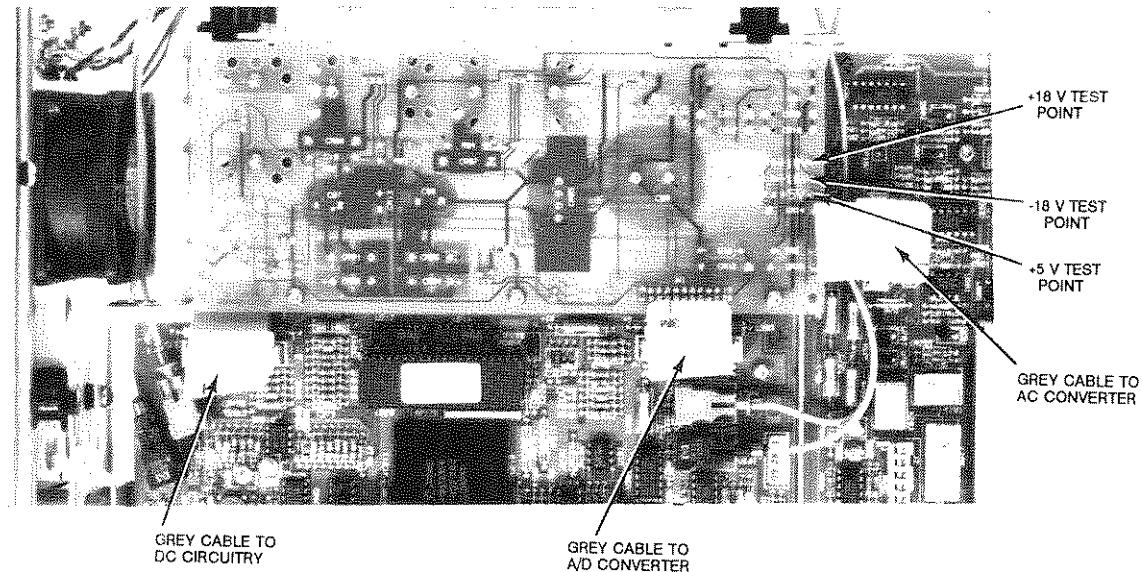

Figure 4-3. Inguard Power Supply
2. Refer to Figure 4-3. With the test digital multimeter, check for $+5\text{ V} (\pm .05\text{ V})$, $+18\text{ V} (\pm 1.8\text{ V})$, and $-18\text{ V} (\pm 1.8\text{ V})$ at the test points shown in the figure.
6. Refer to Figure 4-3 to locate the grey 20 pin cable that connects the Inguard Power Supply (A4) assembly to the DC Circuitry (A1) assembly. Unplug the cable at the power supply assembly.